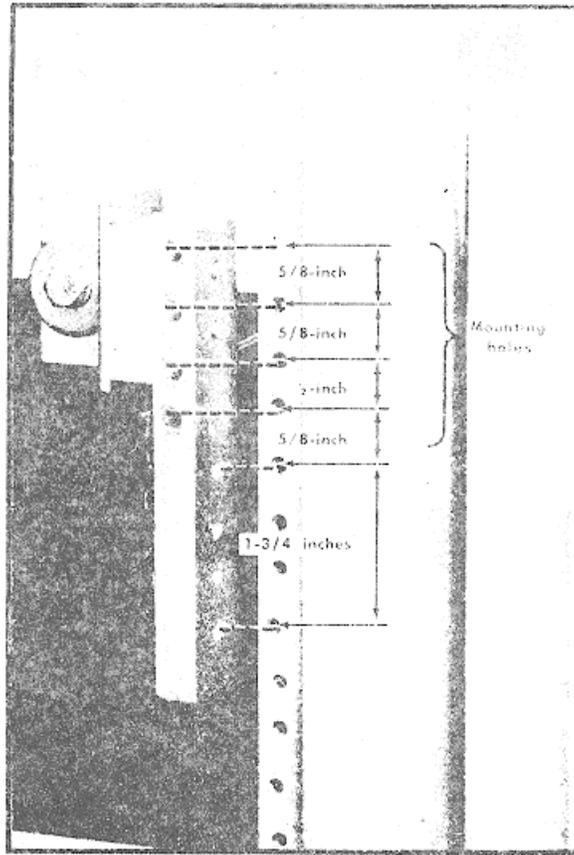

Fig. 11-6. Vertical mounting position for rear-support ruggedizing hardware in an 18-inch deep rack. Left side (only shown.)
2. Locate the bar supports on the rear rails at the correct position for mounting the rear of the stationary sections of the slide-out tracks (see Fig. 11-6). Using the 10-32 round-head screws provided, securely attach the bar supports to the rear rails.